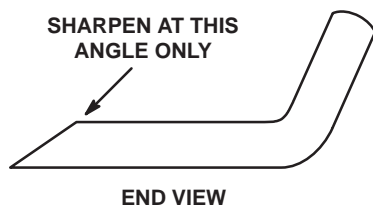

Figure 34
3. Examine the cutting edges of all blades. Sharpen the cutting edges if they are dull or nicked. Sharpen only the top side of the cutting edge and maintain the original cutting angle to ensure sharpness (Fig. 34). The blade will remain balanced if the same amount of metal is removed from both cutting edges.